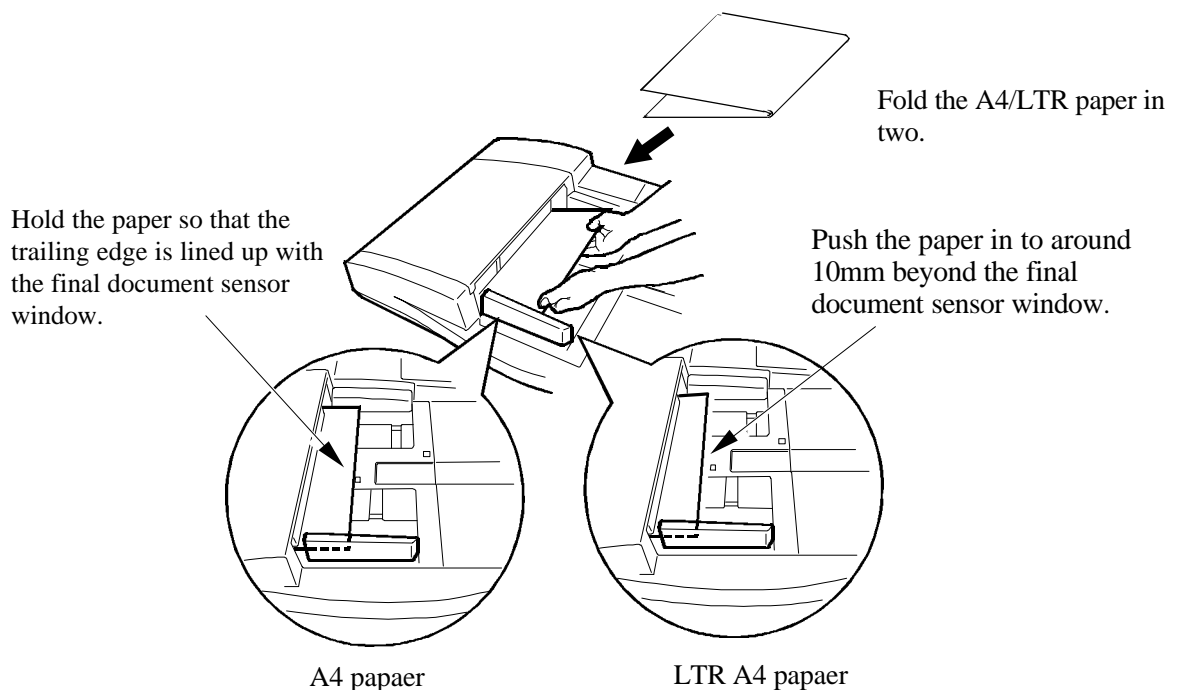

Fig. 2
• The paper will be drawn through strongly, so be sure to hold onto the end firmly, as described in Fig. 2.